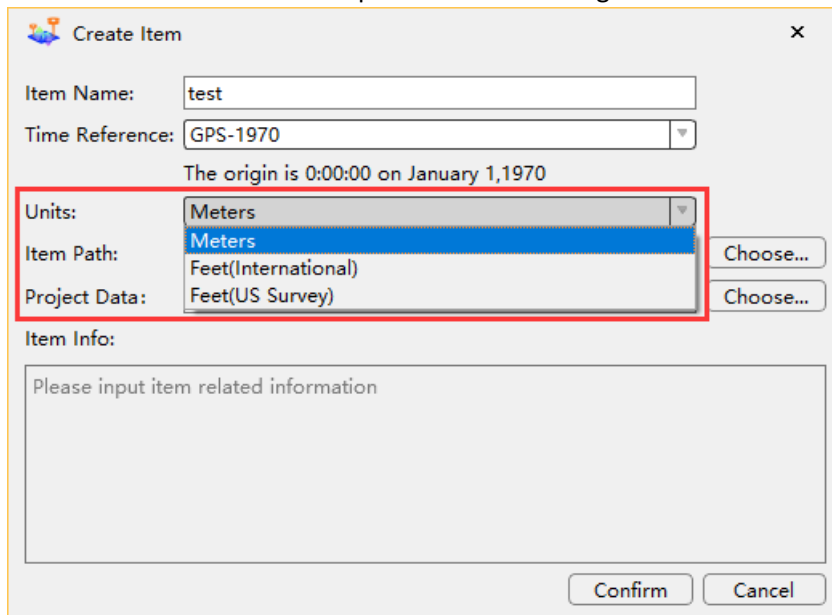

Figure 7
- Select the Units of measurement required as shown in figure 7